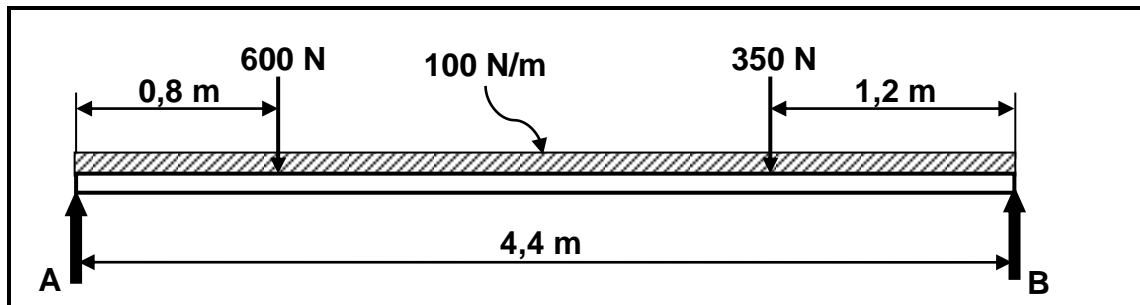

FIGURE 8.2
- 8.2 The diagram in FIGURE 8.2 below shows a beam supported by two vertical supports, **A** and **B**. Calculate the magnitude of the reactions in supports **A** and **B**.
Draw and complete the diagram in FIGURE 8.2 in your ANSWER BOOK. Indicate the point load replacing the distributed load.